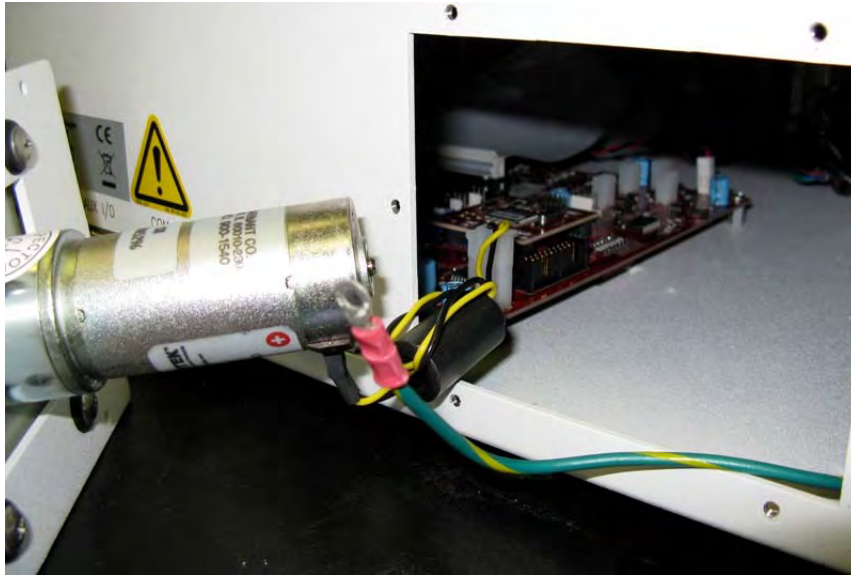

Figure 3-3. Ground wire removed from older style pump in ASX-112FR.
4. Remove the grounding wire from the old pump. See Figure 3-3.